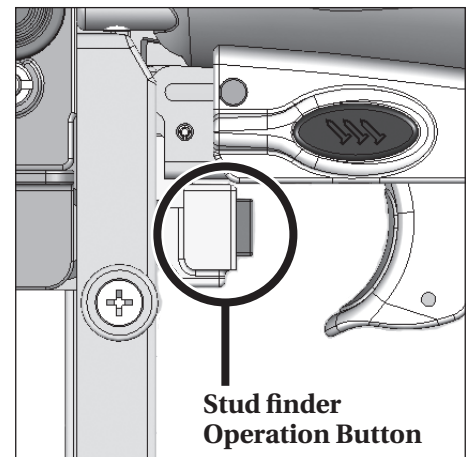

Figure 22
5. Barely press the tip against the wall where no stud is nearby. Press the stud finder operation button and hold (See Figure 22). Stud finder "plate" should be flat against the wall.